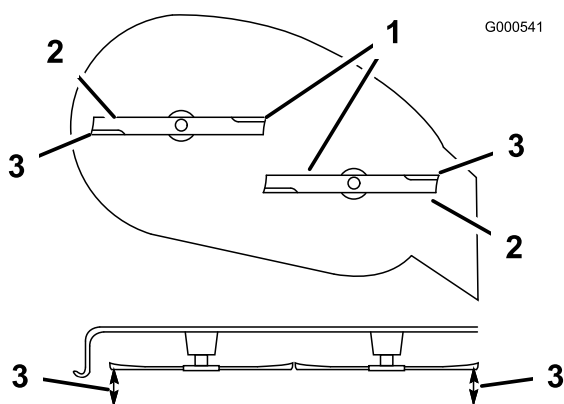

Figure 41
- Carefully rotate the blade(s) side to side (Figure 41). If both measurements are not within 3/16 inch (5 mm), an adjustment is required; continue with this procedure.
- Measure between the outside cutting edges and the flat surface (Figure 41). If both measurements are not within 3/16 inch (5 mm), an adjustment is required; continue with this procedure.